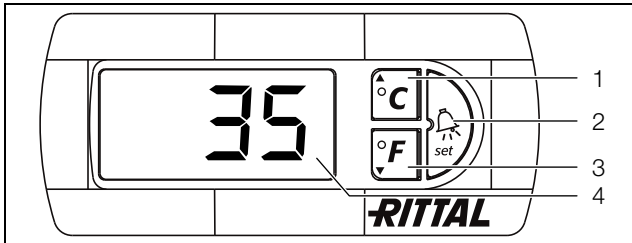

Fig. 18: Controller
The controller has a 7-segment display (fig. 18, item 4). After switching on the power supply, the current software version initially appears on this display for approx. 2 seconds.
The unit is programmed using buttons 1 – 3 (fig. 18). The relevant parameters also appear in the display.
- Simultaneously press buttons 1 and 2 (fig. 18) for at least 5 seconds.
Using buttons 1, 2 and 3 (fig. 18) you can change 24 parameters within the preset ranges (min. value – max. value).